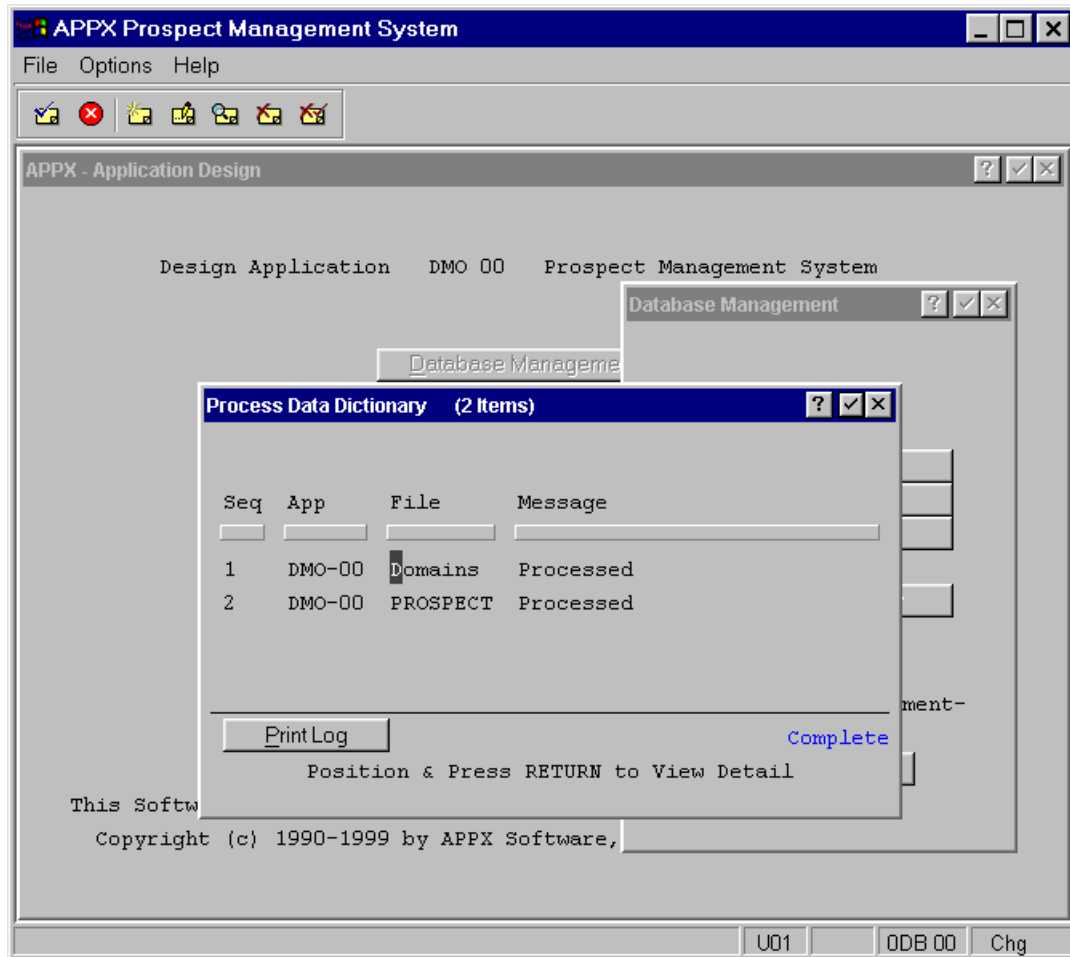

Figure E2.10 – Data Dictionary Processing Status Screen
- As you exit the **File** screen, APPX automatically processes the Data Dictionary. Notice that Domains and the PROSPECT file are both processed. A status screen is shown following the processing of the Data Dictionary (*Figure E2.10*). If no error messages are displayed, then you know that the fields have been added successfully. If an error is displayed, then you will need to correct the problem indicated before continuing.